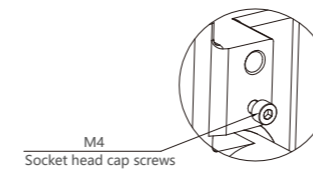

Fig.1a
**Step 1.** Secure the bracket and fixture with appropriate fasteners directly to a structural member; Adjust the angle (6x30°) of the bracket and fix the position with M8 and M4 screws (provided), follow the steps, see fig 1a / 2a.